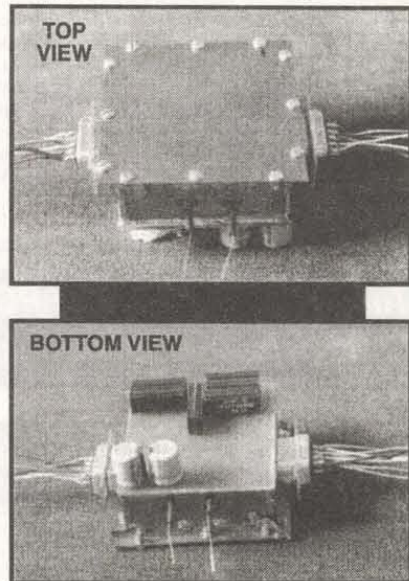

**FIGURE 16**
11) Again replace the top cover and install two #2 x 3/16 screws in the holes. The top cover is now locked in position. Using the #50 bit, drill the remaining holes around the perimeter of the top (Figure 16), each hole spaced approximately 1/2 inch. Remove the top cover and redrill the holes in the cover with the #42 bit. Tap the remaining holes of the shield case with the #2